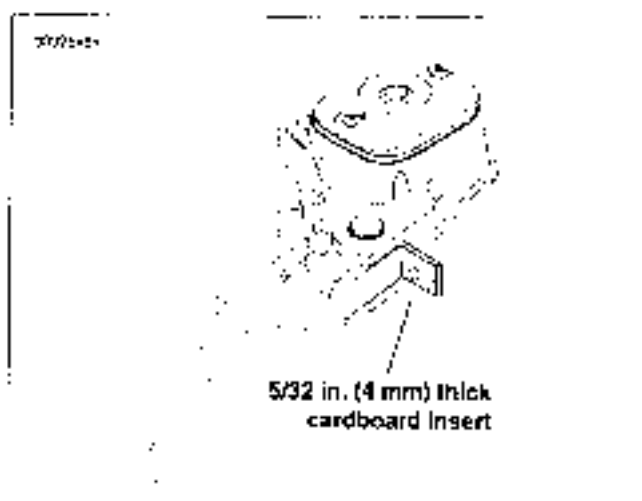

Figure 8-73. Install Cardboard Insert
1. See Figure 8-73. Place the cardboard insert between the brake lever and lever bracket.